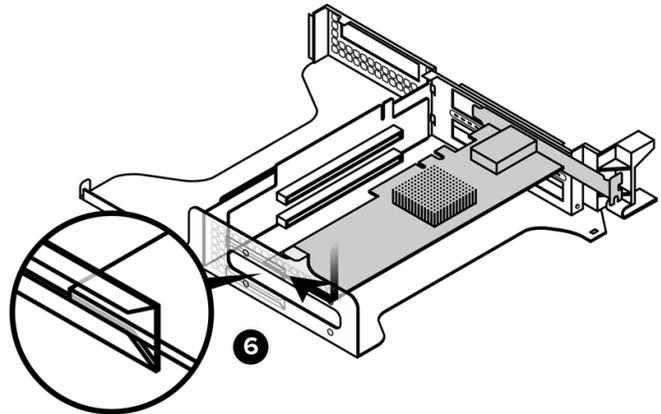

Figure 18-3. Aligning HBA with Guides
6. Lower the rear of the HBA and align the edge with the plastic guides. See Figure 18-3.